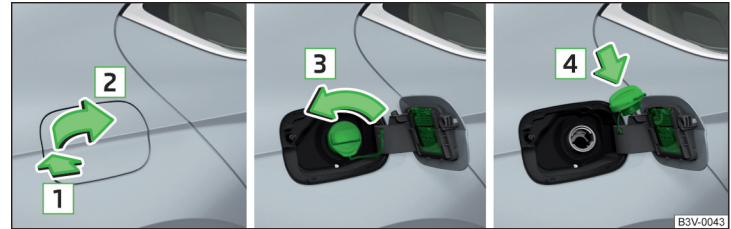

Fig. 224 Open fuel filler flap / unscrew tank cap / place the tank cap on the fuel filler flap
The correct fuel grades for your vehicle are specified on the inside of the fuel filler flap » Fig. 224 on page 201.
- Press on the fuel filler flap in the direction of the arrow **1** accordingly » Fig. 224.